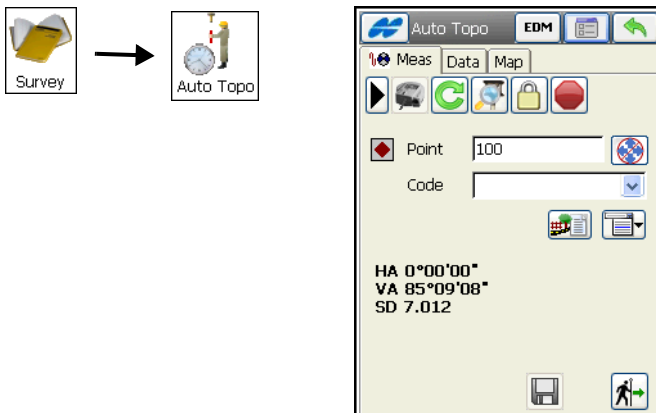

Figure 8-58. Auto Topo
1. Enter the point name, code and the height of the rod (Figure 8-58).